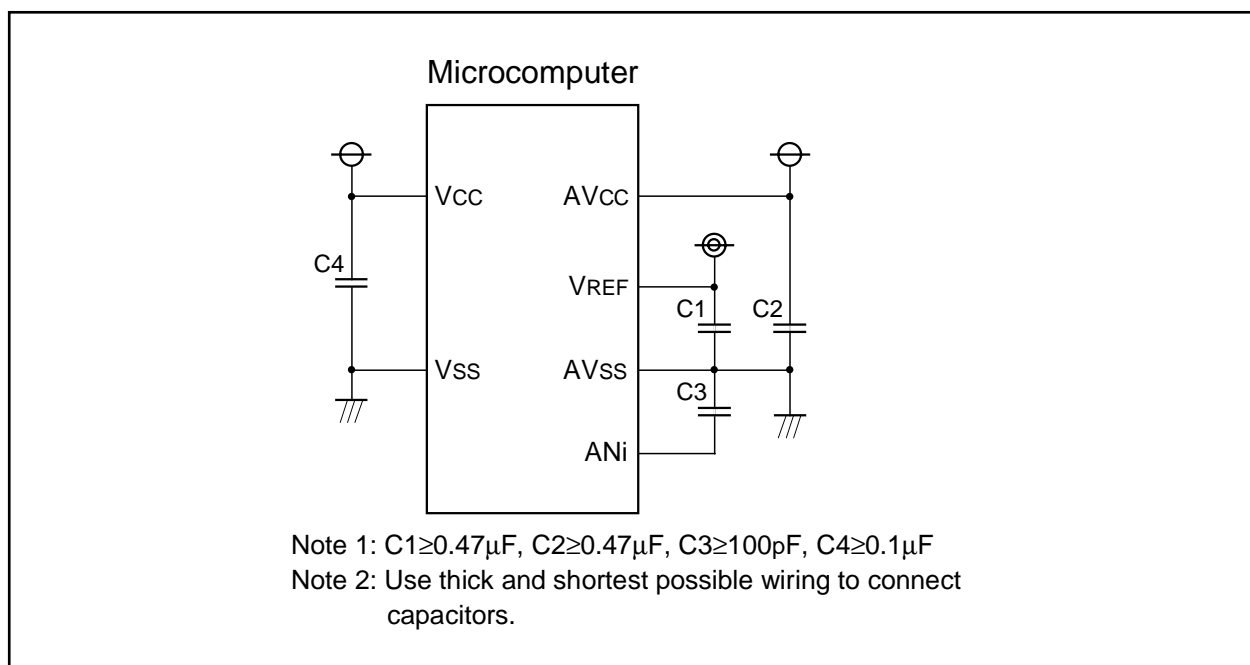

Figure 1.20.10. Example connection of Vcc, Vss, AVcc, AVss, VREF and ANi
- (1) Set the direction register of the following ports to input: the port corresponding to a pin to be used as an analog input pin and external trigger input pin(P97).
- (2) In using a key-input interrupt, none of 4 pins (AN4 through AN7) can be used as an A-D conversion port (if the A-D input voltage goes to "L" level, a key-input interrupt occurs).
- (3) Insert the capacitor between AVcc and AVss, between VREF and AVss, and between the analog input pin (ANi) and AVss, to prevent a malfunction or program runaway, and to reduce conversion error, due to noise. Figure 1.20.10 is an example connection of each pin.